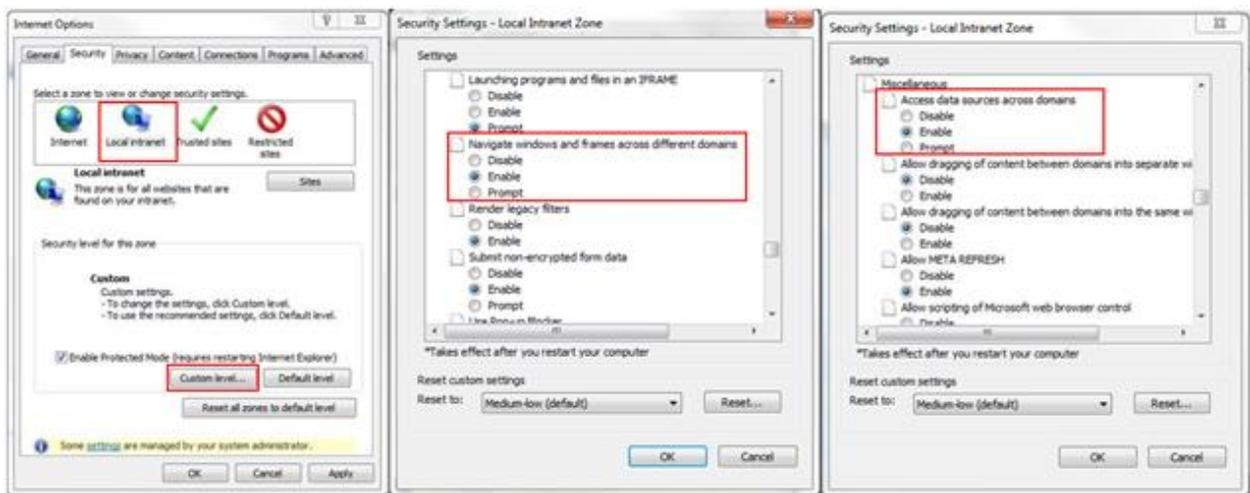

Figure 3-52 Internet Settings
2. Please enable "Cross-domain browsing windows and frames" and "Access data sources through domain" on the "Security" tab in Internet Explorer "Internet Options", as shown in Figure 3-52.